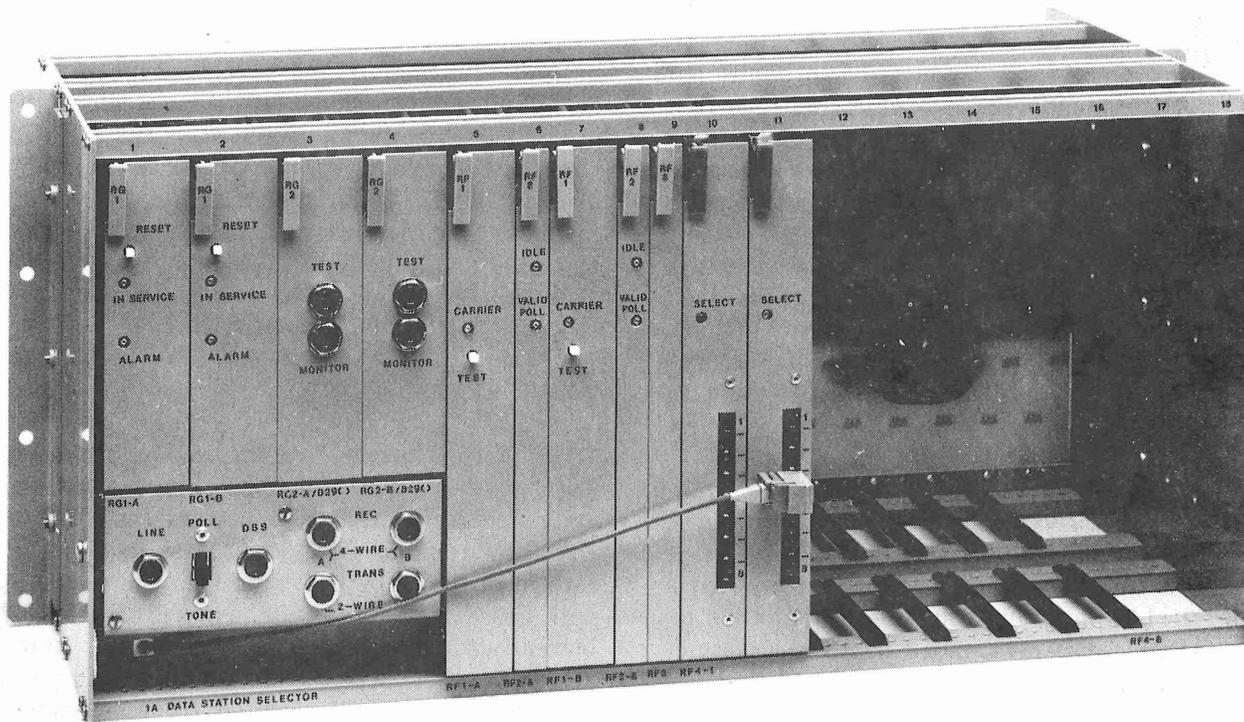

Fig. 3—1A Type Data Station Selector With Test Probe in Position on RF4-2
1.08 Also on the same panel are two additional jacks designated LINE and DSS, and a switch designated POLL-TONE that are associated with a test probe attached to a 5A cord reel. This probe (when plugged into one of the eight positions in the connector on the faceplate of an RF4 circuit pack) splits the associated output circuit connecting the line side of the customer loop to the jack designated LINE and the circuit side to the jack designated DSS. The POLL-TONE switch allows either the polling signal or the line-up tone to appear on the DSS jack. Fig. 3 shows the probe in position on the RF4-2 circuit pack.